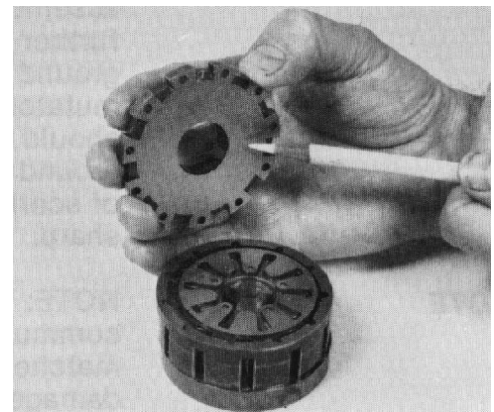

Figure 46
28. Lift the commutator cover from the metering package (Fig. 46).